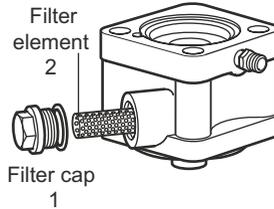

Figure 10: Filter element
7.3 Procedure to renew the pilot filter element: (Refer to Figure 10)